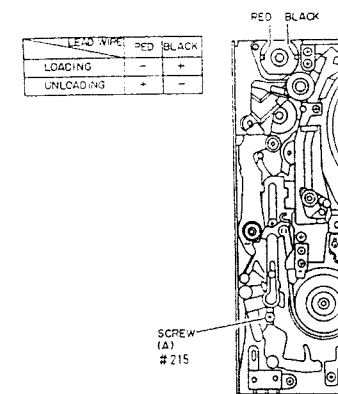
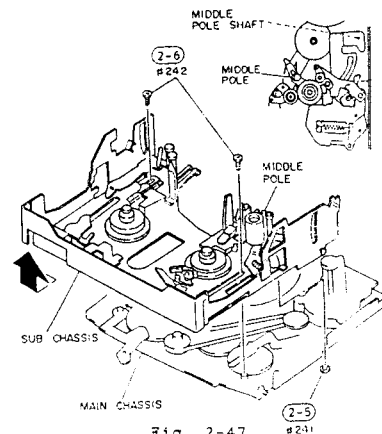

Fig. 2-46
Fig. 2-47
- 3) Apply DC3V to the loading motor (CN904) so the sub chassis performs loading until screw (A) holding the sub chassis can be seen. When screw (A) can be seen, disconnect DC3V from the loading motor and stop loading. (See Fig. 2-46)
- 4) Remove screw (A) and apply DC3V to the loading motor in the reverse way to step 3) to set the sub chassis to the eject state.
- 5) Remove one (1) washer holding the middle pole. (See Fig. 2-47)
- 6) Remove two (2) screws holding the sub chassis.